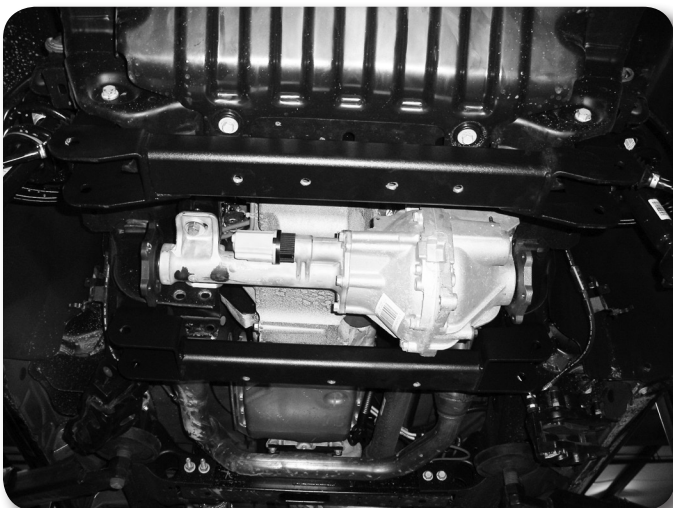

Figure 20
33. Install the new rear crossmember with the factory lower control arm bolts, nuts and washers. When installed the rectangular cross tube should offset closer to the rear of the vehicle **Figure 20**. Run the bolts from front to rear. Leave hardware loose.
34. Install the front crossmember in the control arm pockets with the factory lower control arm bolts, nuts and washers. When installed the offset in the crossmember ends should be toward the front of the vehicle **Figure 20**. Run bolts from front to rear. Leave hardware loose.